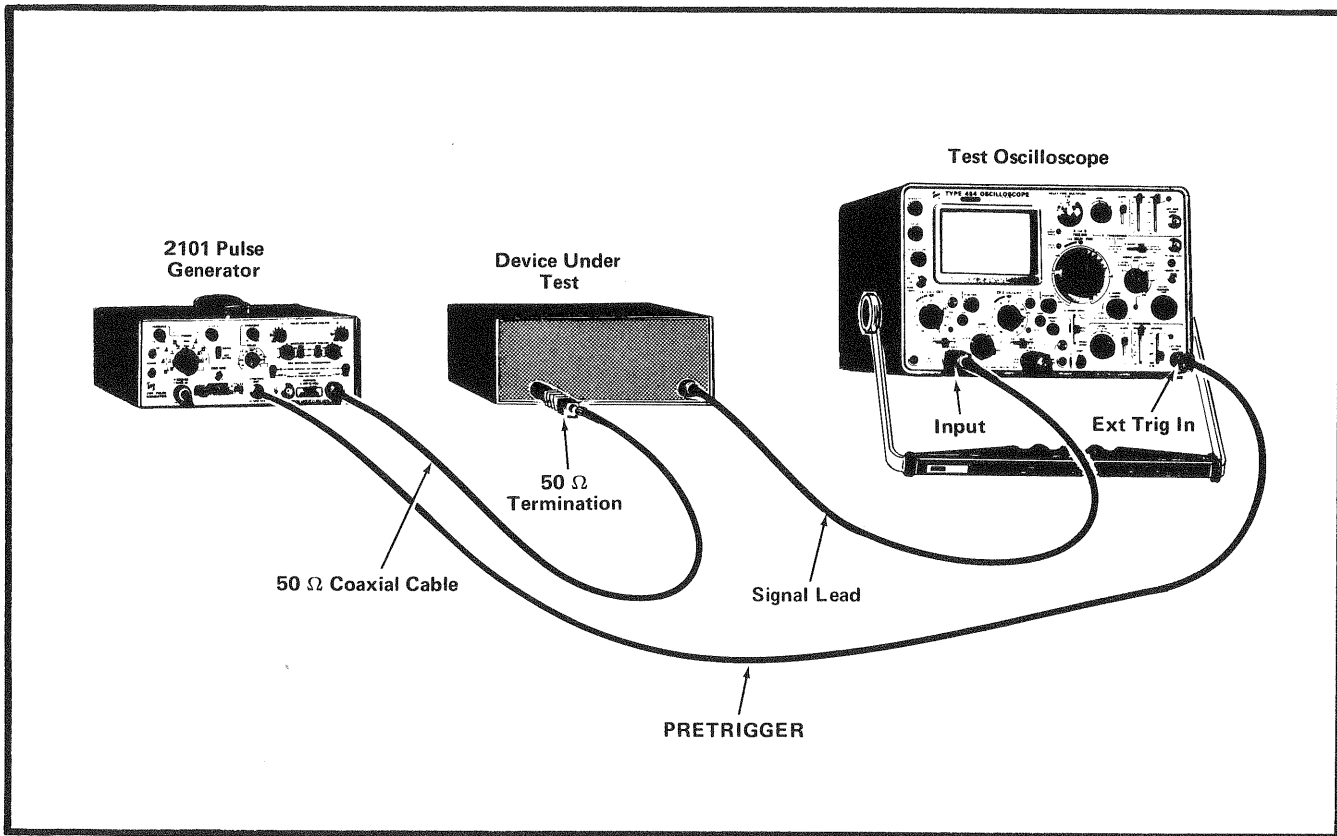

Fig. 2-3. Typical test equipment setup for checking pulse response of a device.
2. Apply the + PRETRIG OUT signal through a coaxial cable and 50 Ω termination to the External Trigger Input connector of a test oscilloscope. See Fig. 2-3.
3. Apply the + OUTPUT signal, through a coaxial cable, a 10× 50 Ω attenuator, and a 50 Ω terminator, to the vertical Input of the test oscilloscope (Fig. 2-3).